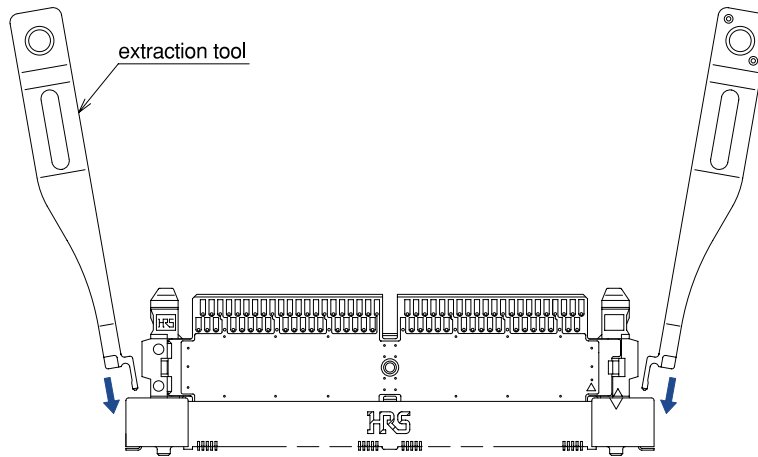

Fig. 1
- Fully insert the tools into each end of the receptacle assembly (Fig. 1) assuring that they will be over the hold areas of the Transmission Module frame. Ref. Fig. 2